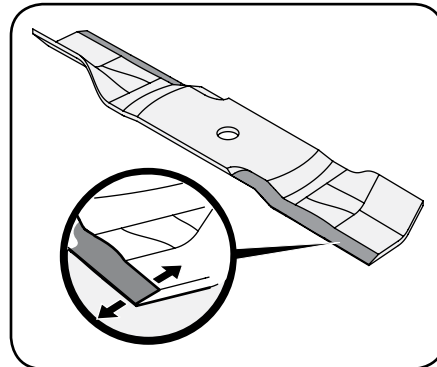

Figure 4-19
3. To properly sharpen the cutting blades, remove equal amounts of metal from both ends of the blades along the cutting edges, parallel to the trailing edge, at a 25°-30° angle. Always grind each cutting blade edge equally to maintain proper blade balance. See Figure 4-19.